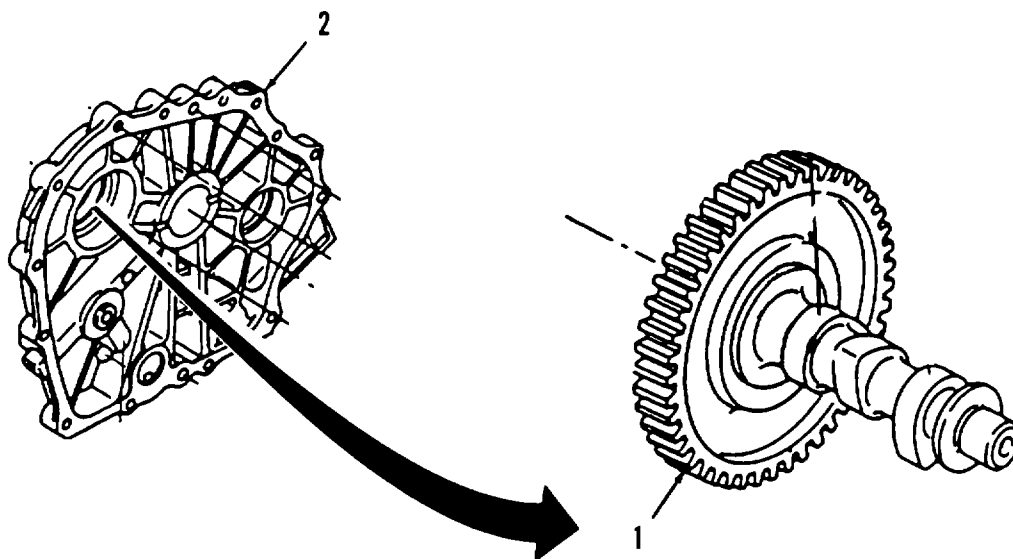

Figure 6-10. Camshaft Removal.
- a. **Removal** (Refer to Figure 6-10).